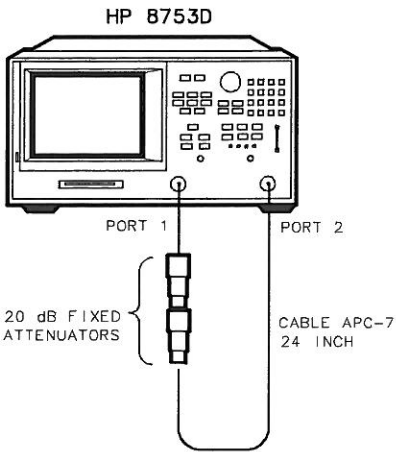

Figure 1-51. Test Port Output Harmonics Test Setup
4. Connect the equipment as shown in Figure 1-51.